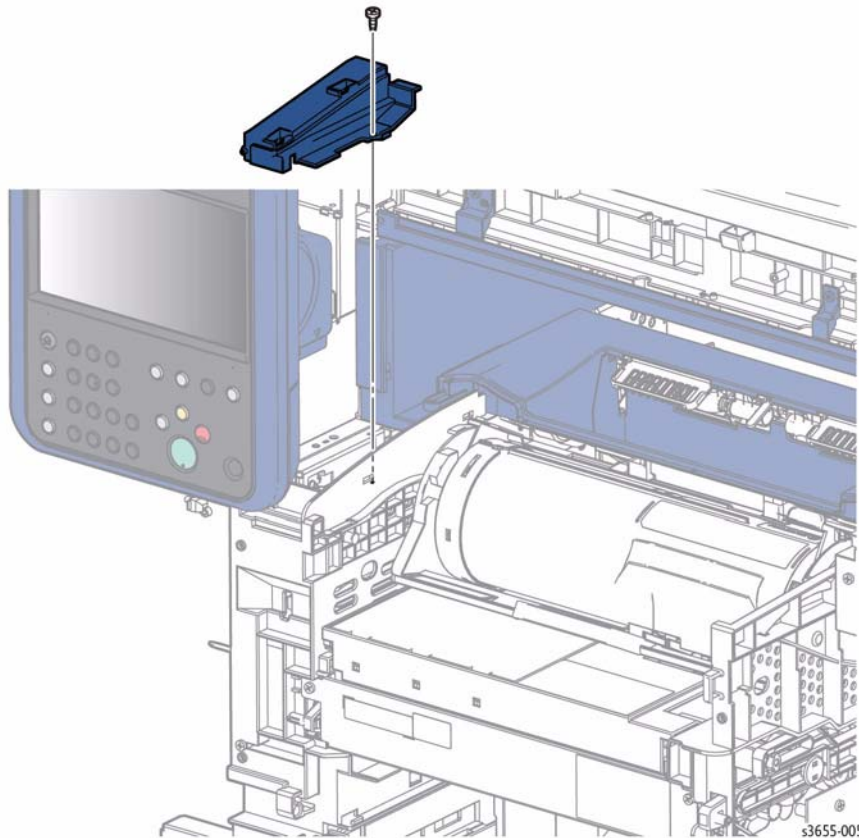

Figure 1 Remove the UI Base Bottom Cover
6. Refer to Figure 1 to locate and remove 1 screw (silver, tapping, M3, 8mm) to remove the cover.